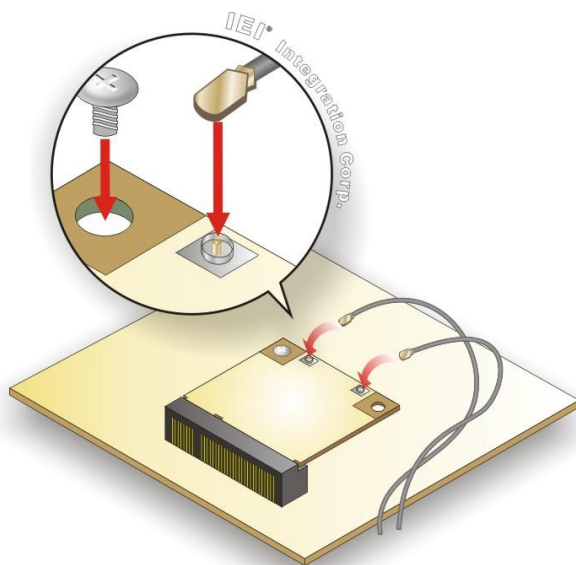

Figure 3-22: Securing WLAN Module and Connecting RF Cables
**Step 6:** Secure the WLAN module with the retention screw previously removed (**Figure 3-22**).
**Step 7:** Connect the two RF cables to the antenna connectors on the WLAN module (**Figure 3-22**).